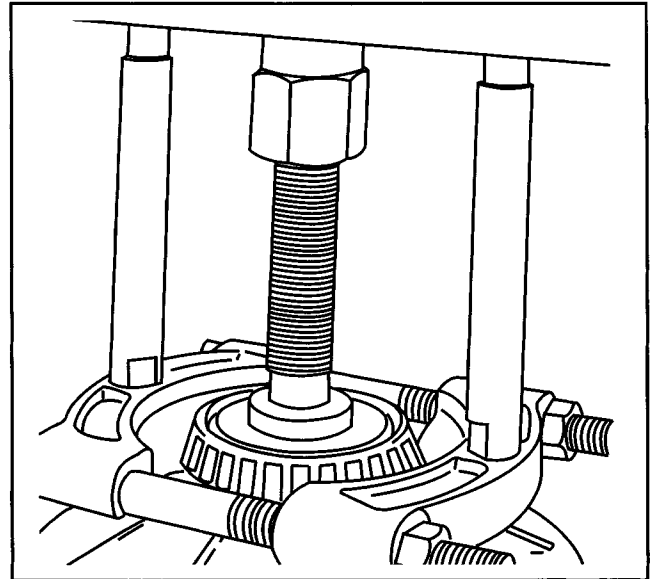

Figure 5
6. If differential side bearings are to be replaced, remove old bearings using suitable puller (See Figure 5).